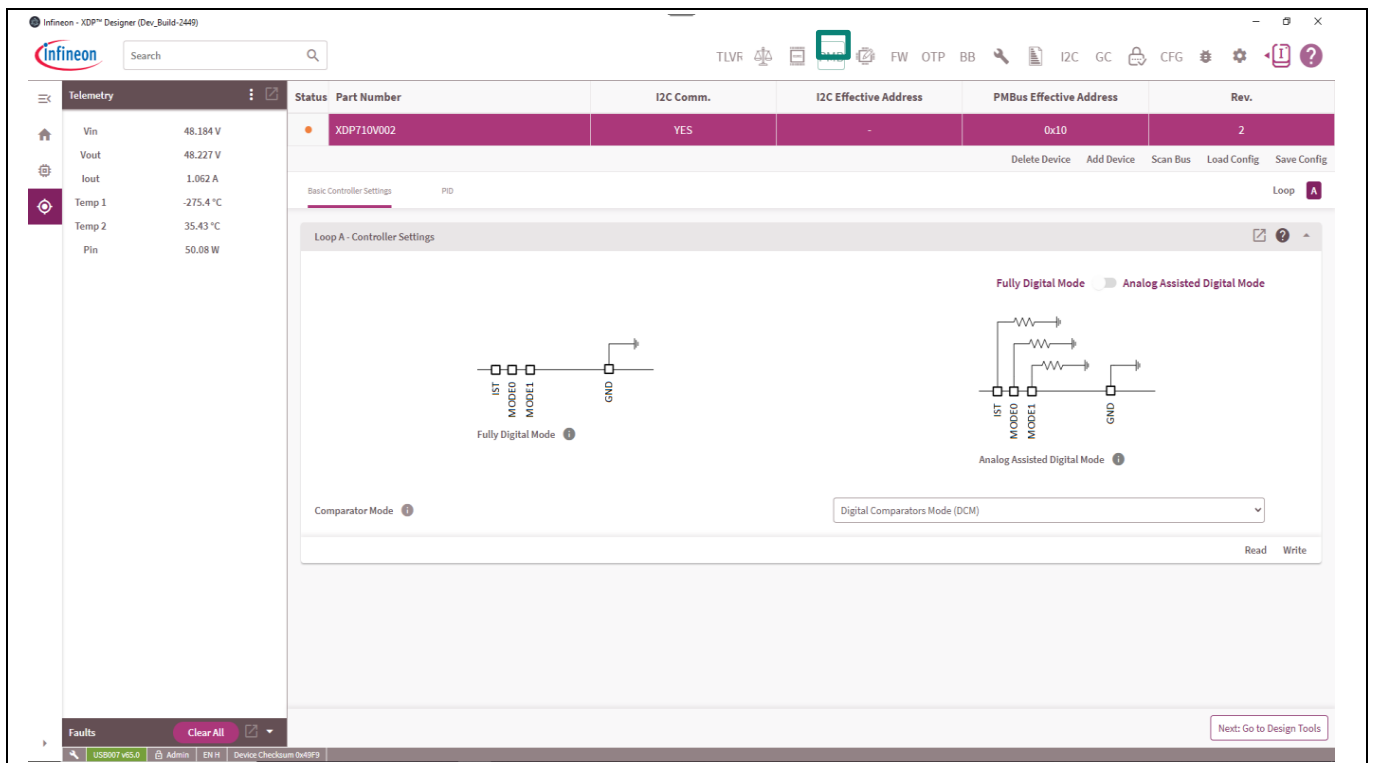

Figure 44 Programming tab
2. Click the button highlighted as shown in Figure 44.